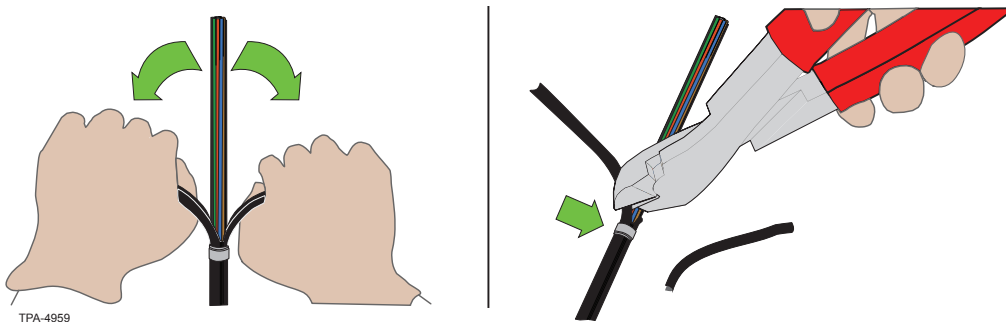

Figure 7
Step 6: Continue to remove the jacket by pulling both sides down to the tape mark and remove the jacket with side-cutter or small snips (Figure 7).